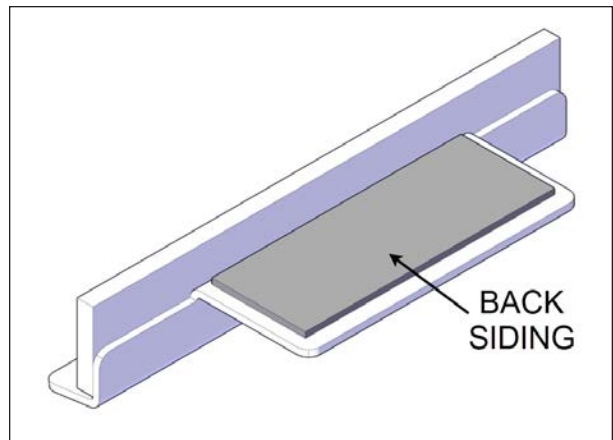

FIGURE 91: PEEL BACK WIPER SIDING
2. Peel back the red siding of the double-sided tape of one wiper, see Figure 91.